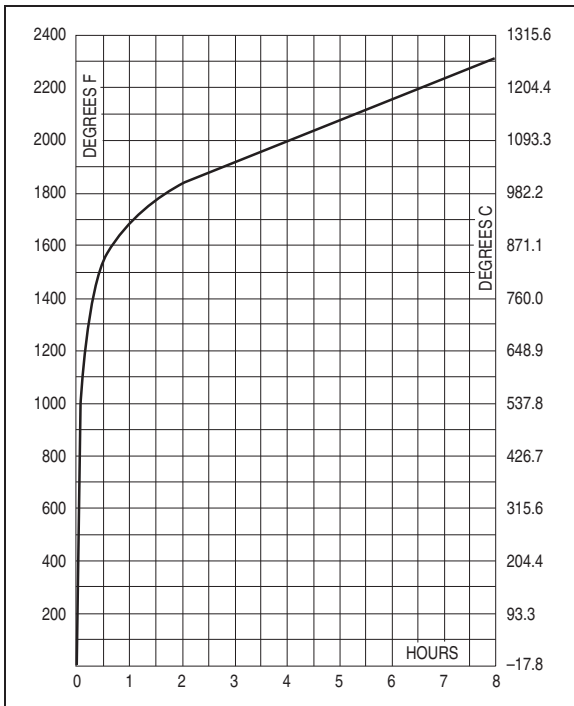

Fig. 1.0 - Time Temperature Curve
- **Fire Endurance Test:** Similar requirements as detailed in UL 555, UL 555C requires the fire exposure for the ceiling damper to be controlled in accordance with the Standard Time-Temperature Curve (See Fig. 1.0 on page C8).
The ASTM E 119 and UL 263 tests are conducted using the time temperature curve, shown in Fig. 1.0. The temperatures used in the test standard are not intended to be indicative of any specific fire type but are intended to provide a consistent and reproducible means so that various building elements, components and assemblies can have their performance evaluated and compared to both the test and to each other.